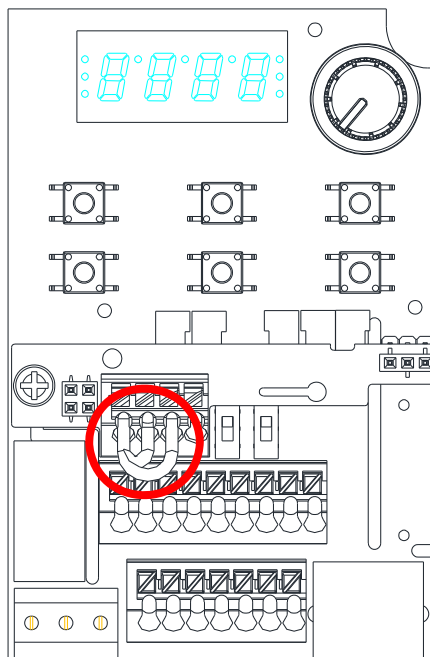

Figure 2
- 15-3-1. Figure 2 shows the internal circuit diagram of the safe control loop.
- 15-3-2. The terminals of the safe control loop +24V-S1-S2 are short-circuited together with jumper wire at the factory, as shown in Figure 2.